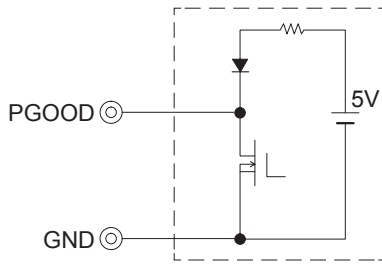

Fig.4.11 Internal PGOOD circuit
■PGOOD circuit is designed as shown in Fig.4.11.